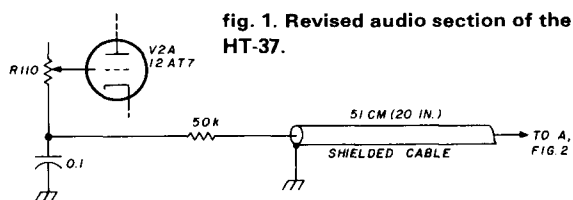

fig. 1. Revised audio section of the HT-37.
5. Solder one end of a 50k resistor to the former grounded terminal of R110, then connect the center wire of a 51-cm (20-inch) length of small shielded cable to the other end of the 50k resistor. Ground the cable shield to a convenient point inside the audio compartment. The revised audio section will then be as shown in fig. 1.